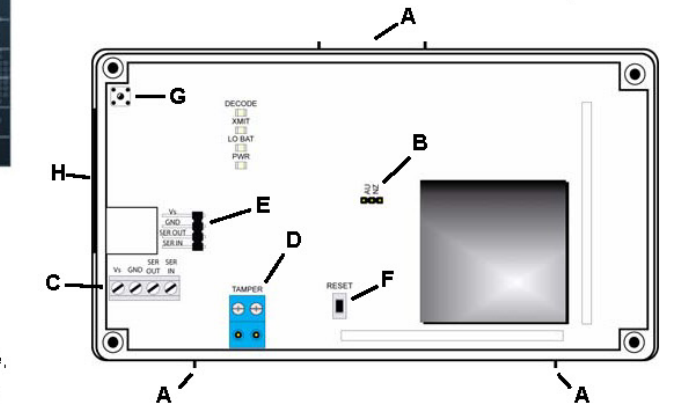

Figure 3 EN6040 network coordinator internal components
- Use a small screwdriver to press the top housing release tab and separate the housing (Figure 3).
- If using the Inovonics ACC643 serial and power cable to connect the EN6040 network coordinator, connect it to the serial data and power port (Figure 3).
- If using a serial data and power cable of your own design, connect it to the serial data terminal (Figure 3). Cabling should meet the following specifications:
- If an external tamper switch is needed, connect a cable to the tamper terminal (Figure 3). Tamper cabling should meet the following specifications:
- Route the cabling through the side cabling knockout (Figure 3).
- Place a selection jumper on the frequency band selection pins appropriate to your geographic area (Figure 3).
- Press the reset button to complete configuration (Figure 3).